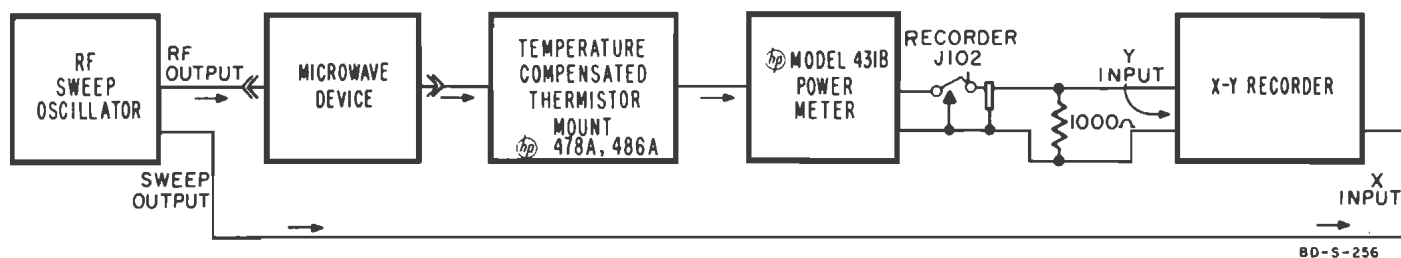

Figure 3-8. Determining Insertion Loss or Gain
**3-30. DETERMINING INSERTION LOSS OR GAIN AS A FUNCTION OF FREQUENCY.** Arrangement of a system to obtain information on insertion loss or gain as a function of frequency is indicated in figure 3-8. Initially, the device under test is not connected into the system; connect the thermistor mount directly to the sweep oscillator. Set the sweep oscillator for the band of interest, and record variations in amplitude as frequency is swept; this curve is the reference. Next, insert the device under test between the sweep oscillator and the thermistor mount, and again record frequency response. The difference between the second reading and the reference, at any one frequency, is the insertion loss or gain of the device at that frequency.